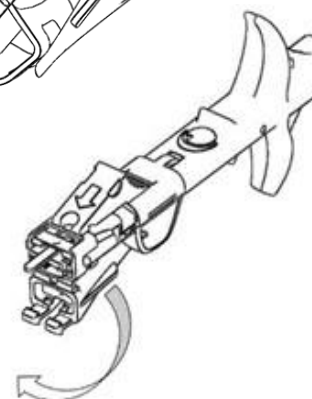

Fig. 4
- Carefully release the cartridge nozzle from the hook. Make sure you do not damage the nozzle tip. Fold up the cartridge nozzle by 180 degrees until it snaps into place, as shown in Fig. 4.